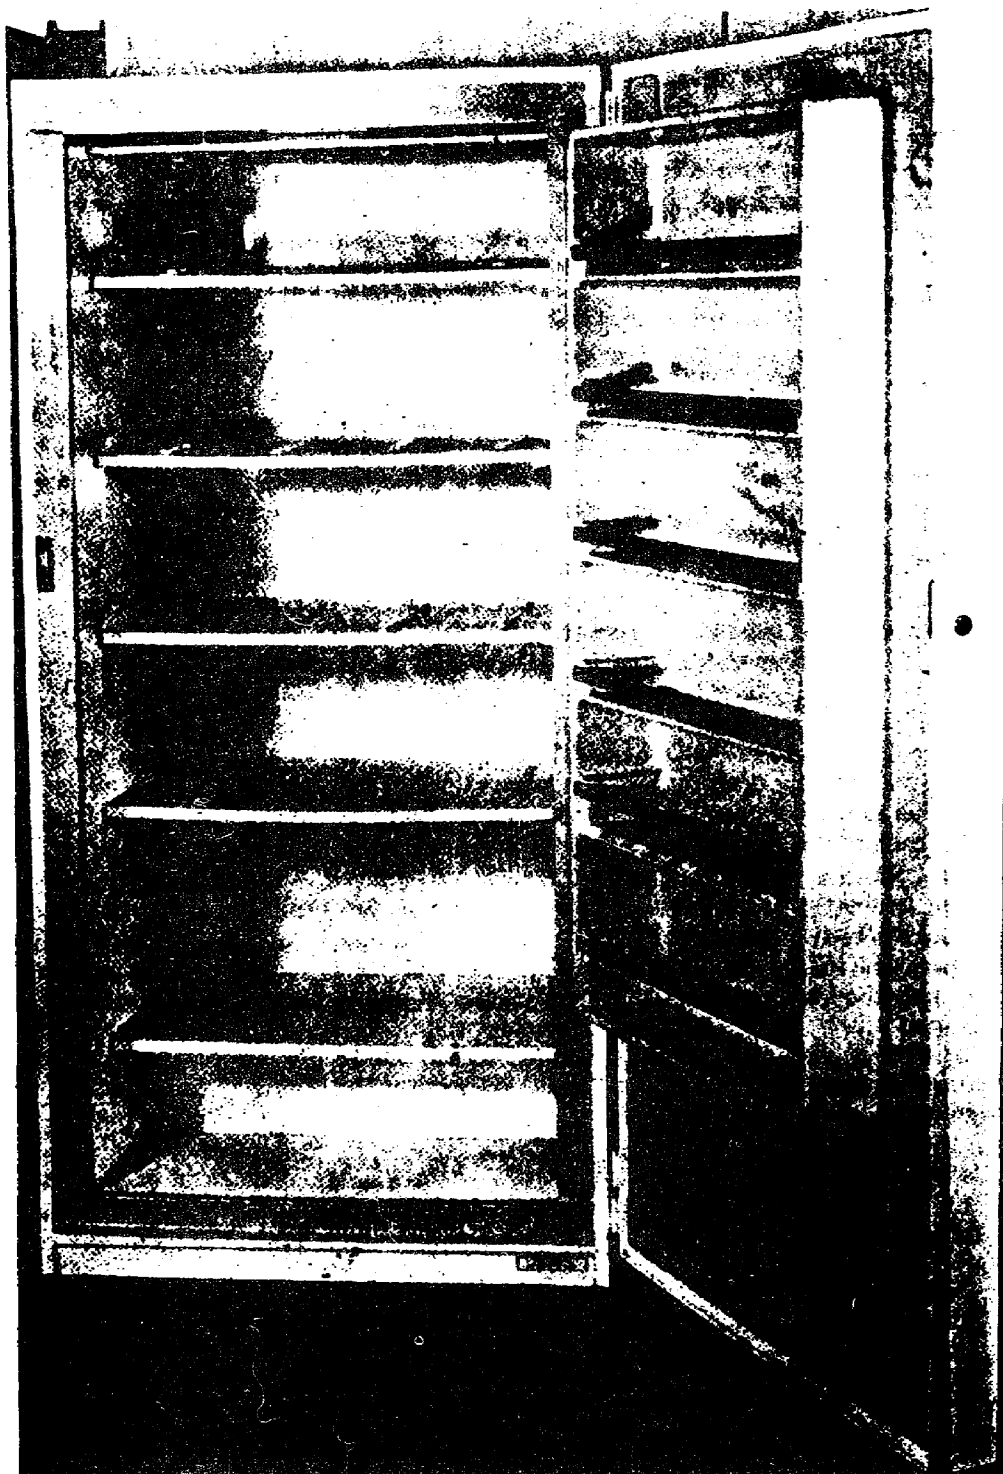

Figure 3. Interior of a frozen food cabinet.
(3) Lubricating a Walk-In Refrigerator. The door hinges and latches are the only refrigerator parts lubricated by kitchen personnel. Oil monthly with light lubricating oil.
5. FROZEN FOOD CABINETS. If a dining facility does not have built-in frozen food facilities, reach-in frozen food cabinets (fig. 3) are used. The number and type of shelves vary; they may be fixed shelves of the sheet or grid type, that contain evaporator tubing (fig. 3); or they may be adjustable, removable shelves without tubing. These cabinets are intended for storing foods that are already frozen; they lack the chilling capacity required for initial quick-freezing. Although room-temperature or chilled food will eventually freeze in these frozen food cabinets, the length of time required will lower the quality of the food and much of its nutritive value will be lost.